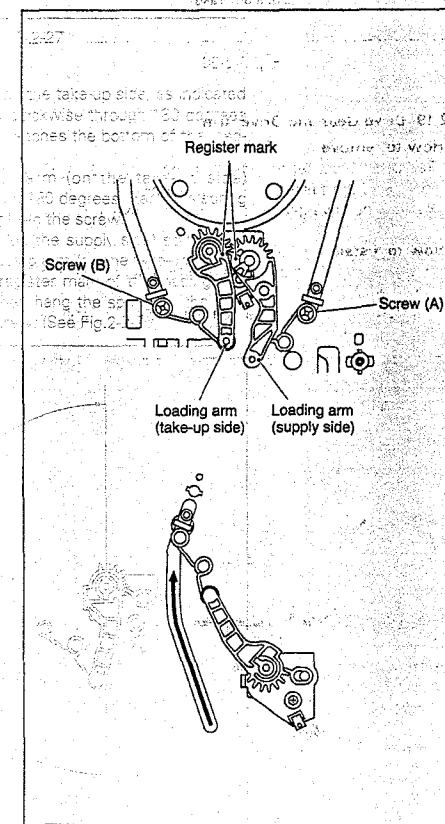
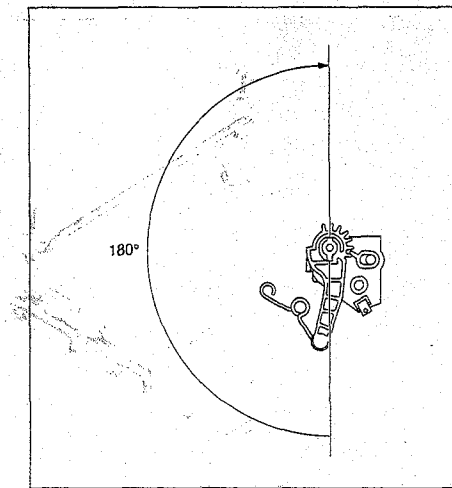

Fig. 2-2-26
Fig. 2-2-28
- (1) Remove the loading arm (on the supply side) by loosening screw (A) in Fig. 2-2-26.
- (2) Remove screw (B) in Fig. 2-2-26 and slide the pole base in the loading direction with the spring held on the pole base (on the take-up side). (See Fig. 2-2-26).
- (1) Install the loading arm (on the take-up side) as indicated in Fig. 2-2-28 and turn it clockwise through 180 degrees so that the loading arm reaches the bottom of the loading arm gear shaft.
- (2) Then turn the loading arm (on the take-up side) counterclockwise through 180 degrees. Hang the spring on the pole base and tighten the screw.
- (3) Install the loading arm (on the supply side) so that the register mark of the loading arm (on the take-up side) is in alignment with the register mark of the loading arm (on the supply side). Then hang the spring on the pole base and tighten the screw. (See Fig. 2-2-26).